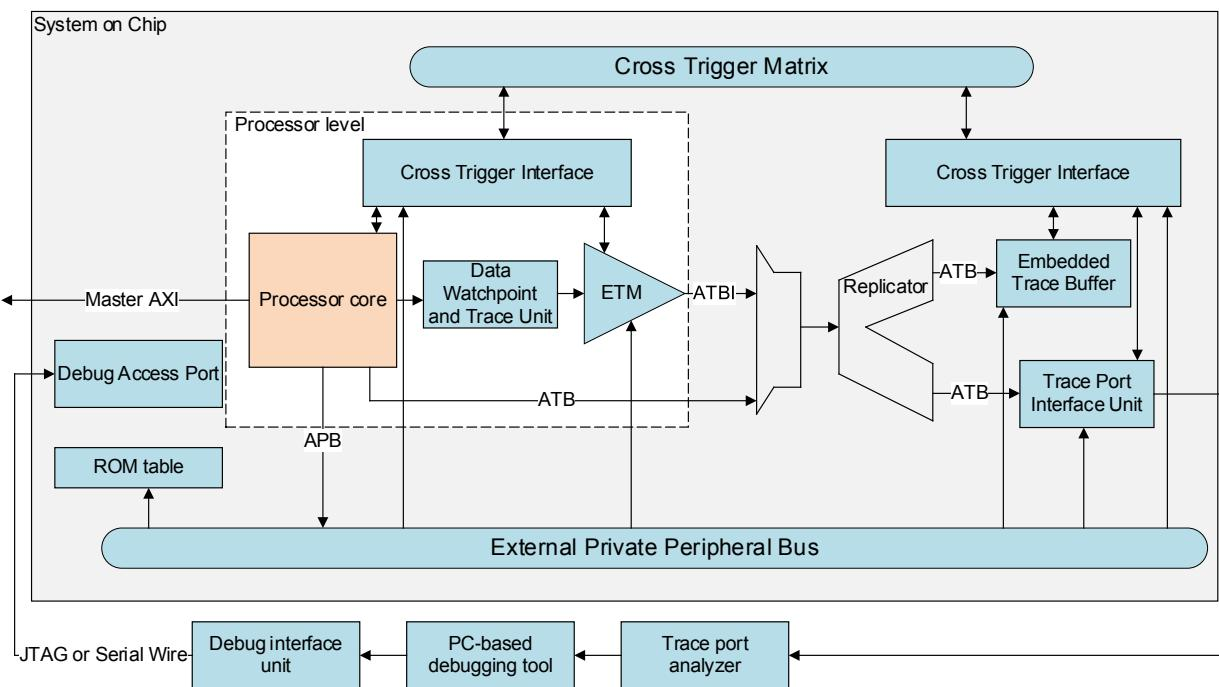

Figure 1-1 Example CoreSight system with ETM-M55
- Export the trace information through a trace port. An external *Trace Port Analyzer* (TPA) captures the trace information as shown in Figure 1-1 Example CoreSight system with ETM-M55 on page 1-13.
- Write the trace information to a trace-capable device that can access local or system memory. You can read out the trace at low speed using a *Joint Test Action Group* (JTAG) or *Serial Wire* (SW) interface.